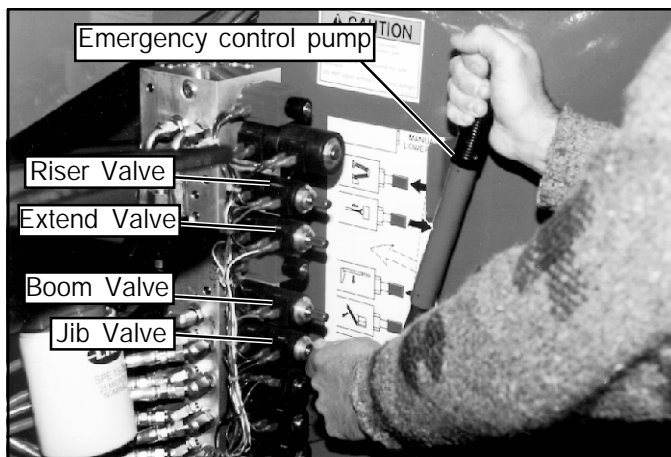

Figure 2-4: Emergency Control Operation
3. Operate the manual override (knurled knob) on the appropriate valve (see fig. 2-4). Push in to lower / extend, pull out to raise / retract as required.